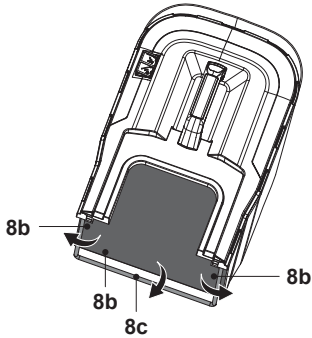

Fig. 5
1. Clip the three rubber clips (8b) onto the supporting rod (8c) of the grass catcher (8) (Fig. 5).